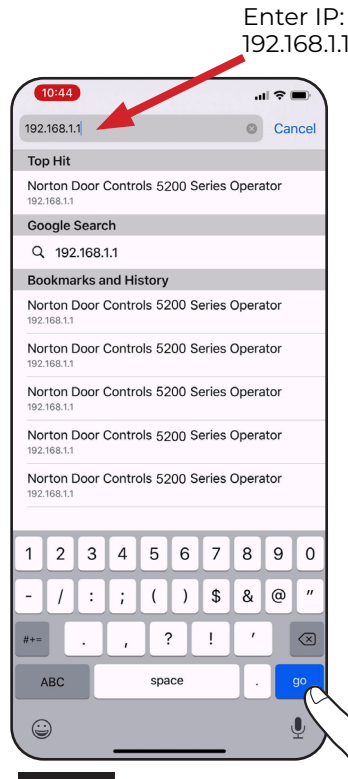

Figure 16
- From the smart device's web browser, enter 192.168.1.1 into address bar. (Figure 16)